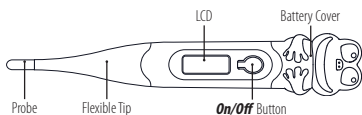

Figure 1: Digital thermometer components
- Press the **On/Off** Button next to LCD display in Figure 1. A tone will sound as the screen shows **188.8°C**, followed by last recorded temperature. After showing the self-test temperature, the thermometer is now in the testing mode.